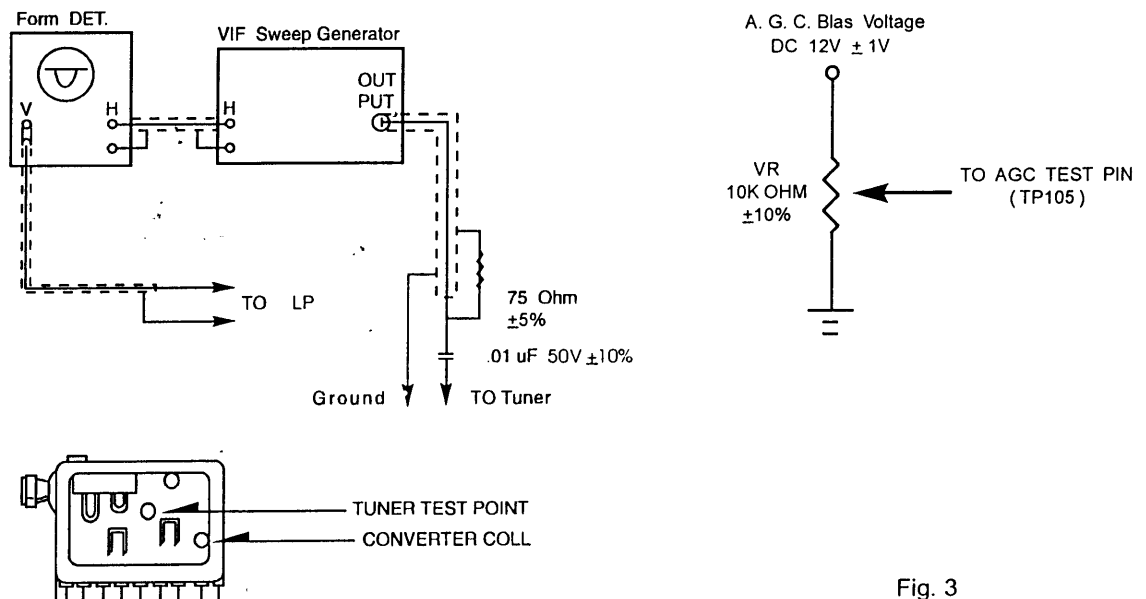

Fig. 3
A. Preparation step. (see fig.3)